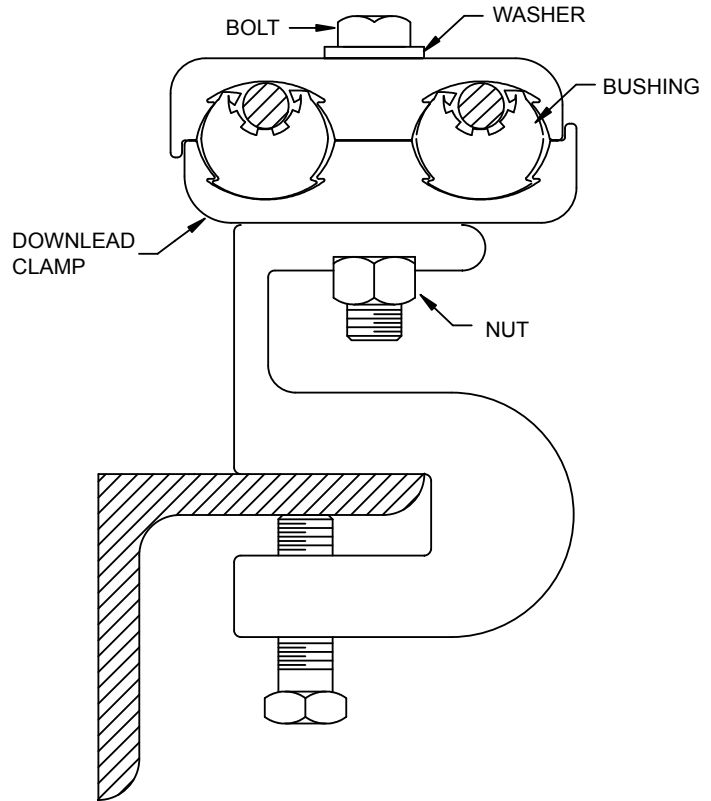

FIG. 2
3. Bolt the downlead clamp to mounting clamp (as illustrated in **Fig. 2**). Hold the mounting clamp and downlead clamp halves while tightening the hardware to prevent rotation and bending of the OPGW and/or ADSS cables.